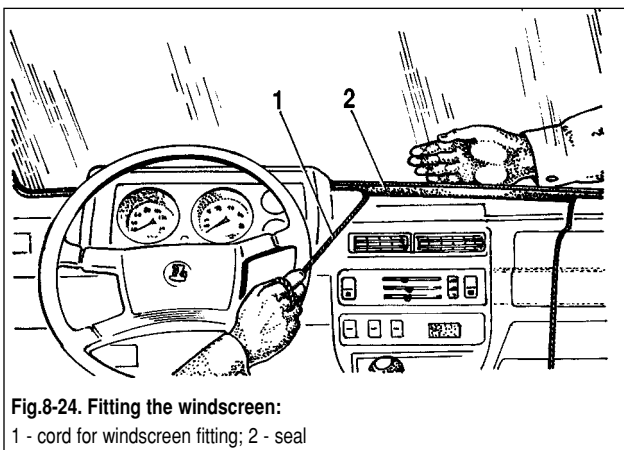

Fig.8-24. Fitting the windscreen:
- using glycerine or soapy water, wet seal 2 groove (Fig.8-24) which is used for attaching it to the body flange;